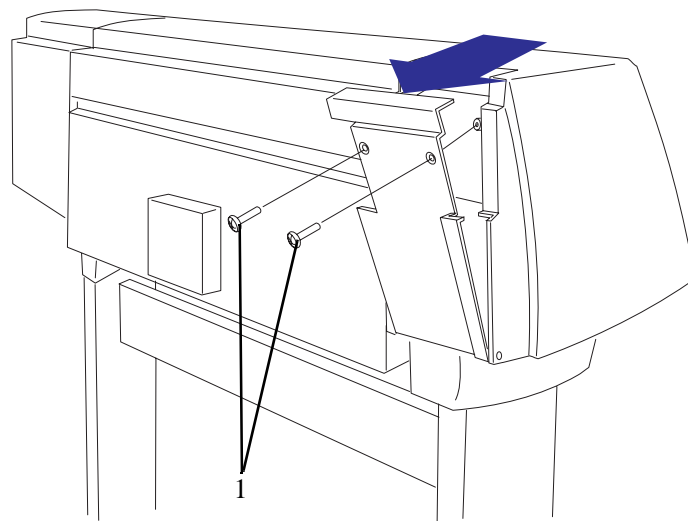

Figure 8: Left Hand Cover
Refer to Figure 8 to Figure 15.
1. Open the door at the back of the left hand cover by removing the two T-15 screws (item 1) (refer to Figure 8).